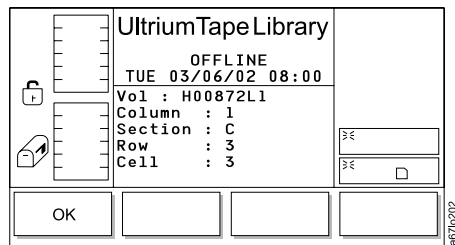

Figure 108. Media Information Dialog
5. Press the button below the **Up** or **Down** softkey to move the selection bar and highlight the cartridge that you want, then press the button below the **Select** softkey. The Media Information Dialog displays (see Figure 108).